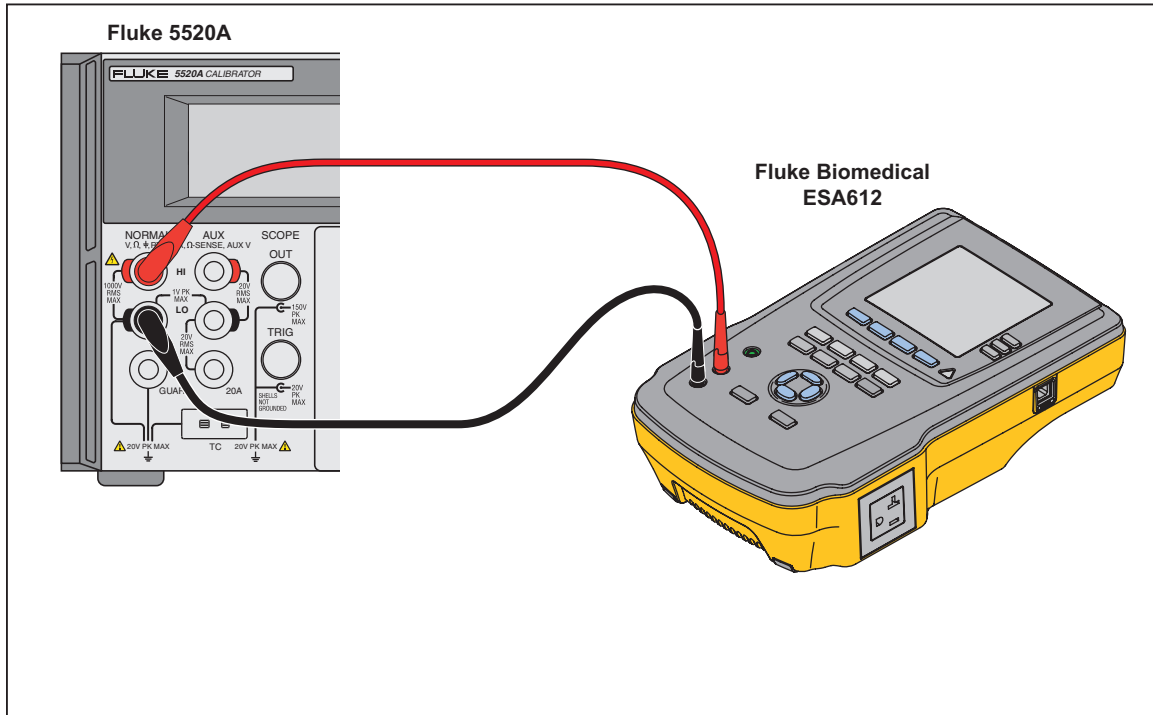

Figure 3-29. AC Meter Calibration Connections
22. Connect the calibrator to the red and black jacks as shown in Figure 3-29. Set the calibrator for 2.000 V, 120 Hz (± 200 mV).